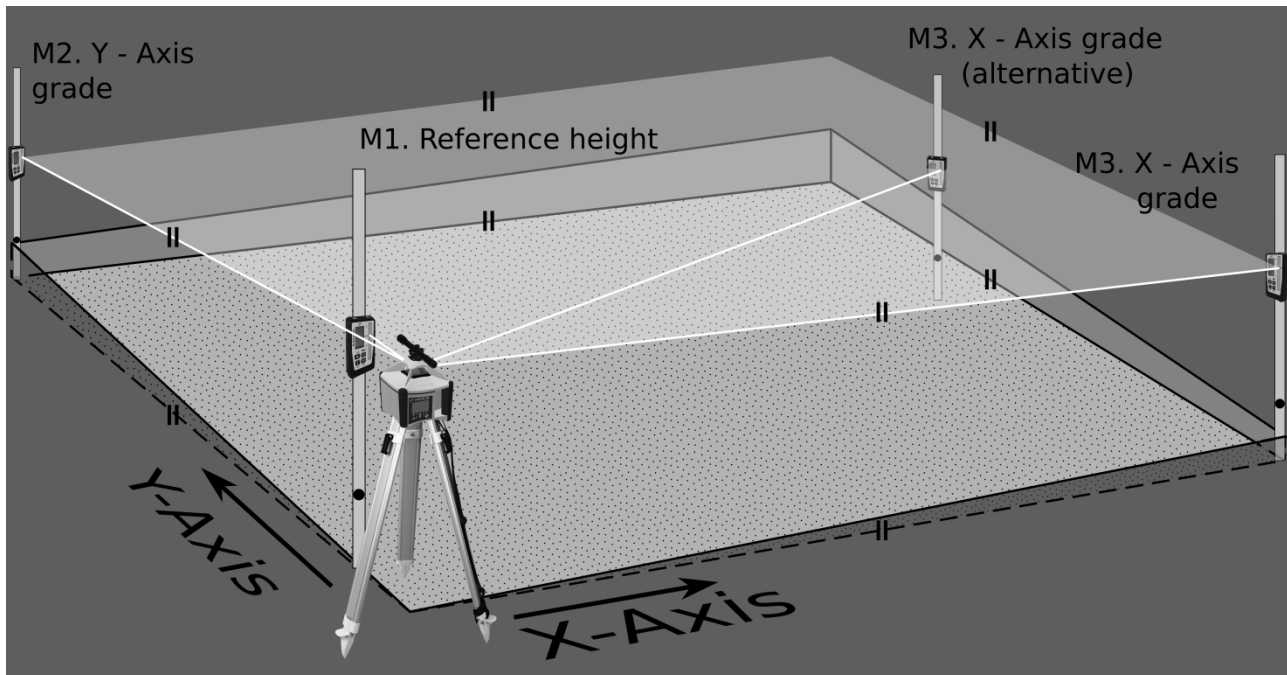

Figure 1: ALIGN setup – Horizontal
First set up the static head horizontally, as described under Section 4 and set the laser in the Y direction flush with the first target point M2 (Figure 1). Use the telescopic sight (option) if the determined grade values are to be as accurate as possible.
Then set up the laser yardstick with the detector as short a distance away from the laser as possible (Figure 1: M1 reference height) and switch on both devices as described in Sections 1 and 11.2 and place the detector centre level with the laser beam.
12.1.2.1 Slope Y axis (Figure 1)
12.1.2.2 Slope Y- and X - axis (Figure 1)